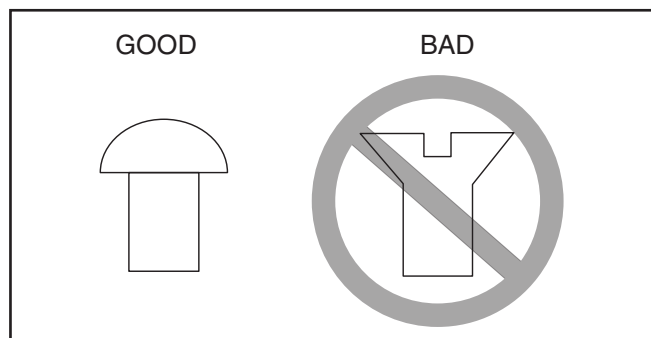

Figure 18. Correct and incorrect screw types for mounting faceplate to workpiece.
3. Center the faceplate on the workpiece and attach it through the faceplate holes with non-tapered head wood screws as shown in **Figure 18**.
NOTICE: Only use tap screws or wood screws with non-tapered heads (**Figure 18**) to attach the faceplate to the workpiece. Do NOT use drywall screws or screws with tapered heads because these can split the faceplate, or the screws may snap off during operation.